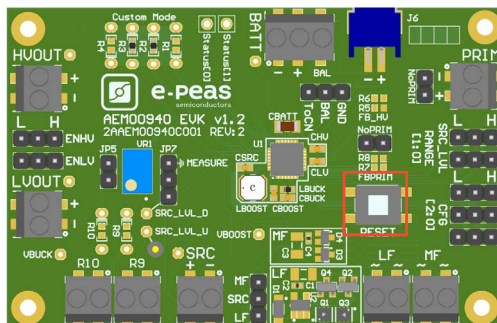

Figure 2: Board Reset
1. Reset the board - see “How to reset the AEM00940 evaluation board” on Figure 2.